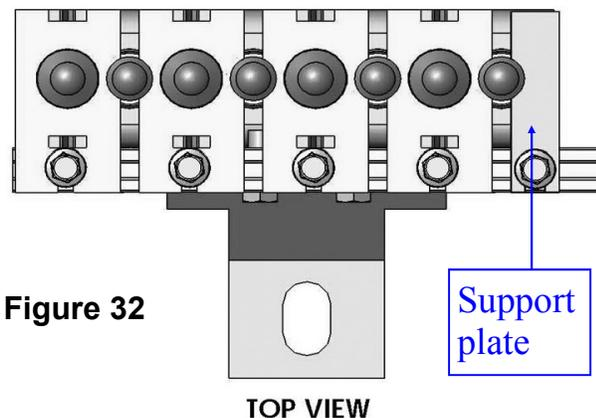

Figure 32
- G. If the section ends with a long stem solenoid then install a support plate at the end of the rail, they are supplied in the kit. (See Fig. 32)